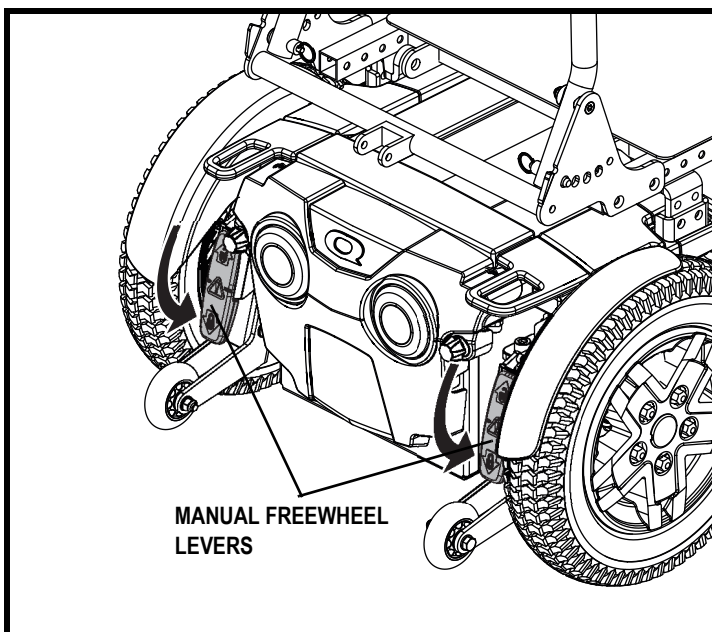

Figure 10. Drive Mode (Drive Engaged)
2. Push the two levers downward to engage the drive motors (drive mode). See figure 10.